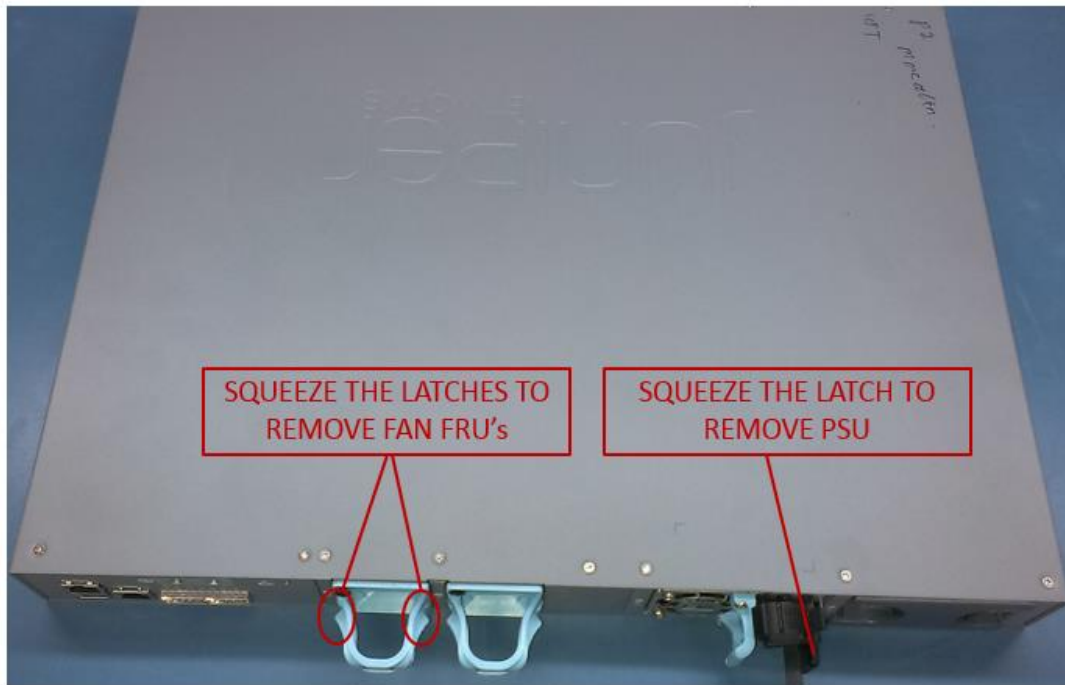

Figure 3-1: FAN FRU'S + PSU
| Figure 3-1: | FAN FRU'S + PSU | 3 |
1. Remove the power supplies from the system. If there are no power supplies, remove the power supply Blanks. Fan FRU need not be removed. (Figure 3-1)